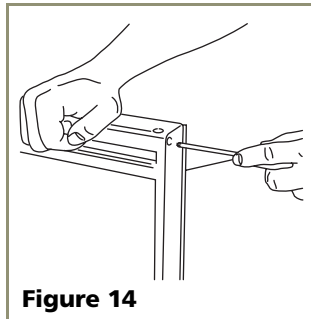

Figure 14
4. Remove two outside screws holding door handle. Slightly separate door handle from door (see **Figure 14**).